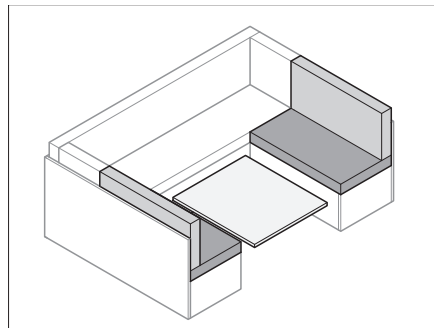

Fig. 77 Converting the table
- Convert the table (Bild 77) into a bed foundation (see Section 6.8).